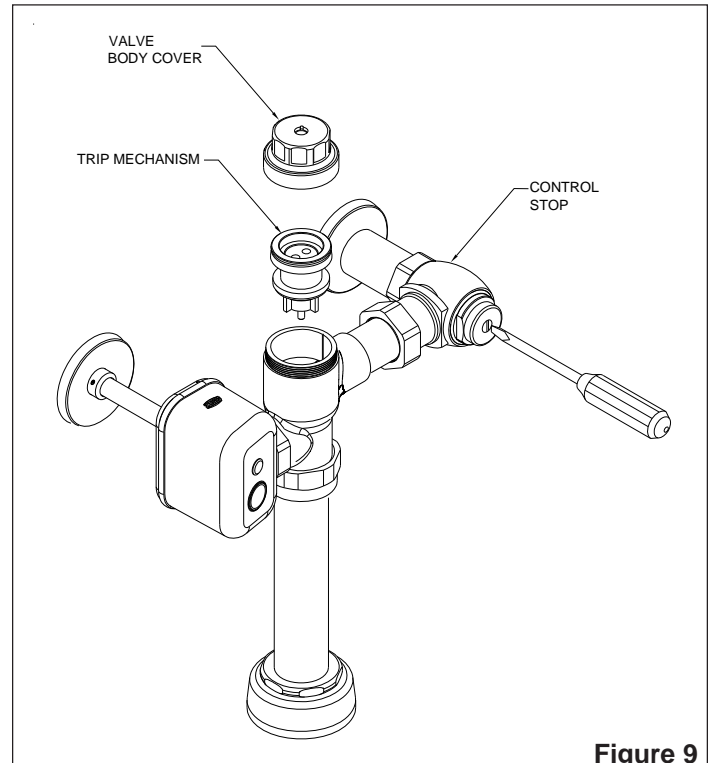

Figure 9
STEP 9 - Flush Out Supply Line (Figure 9)